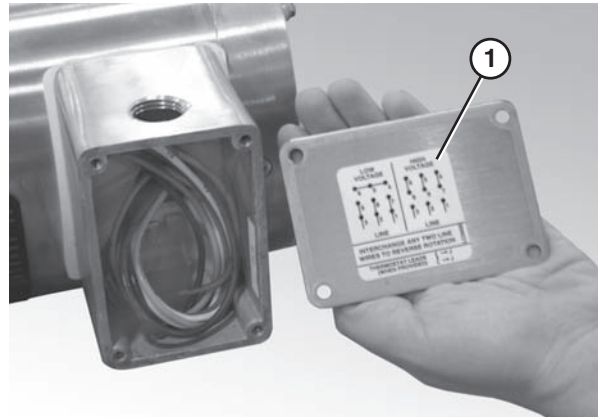

Figure 59
2. Refer to the wiring diagram (Figure 59, item 1) on the inside of the junction box cover.